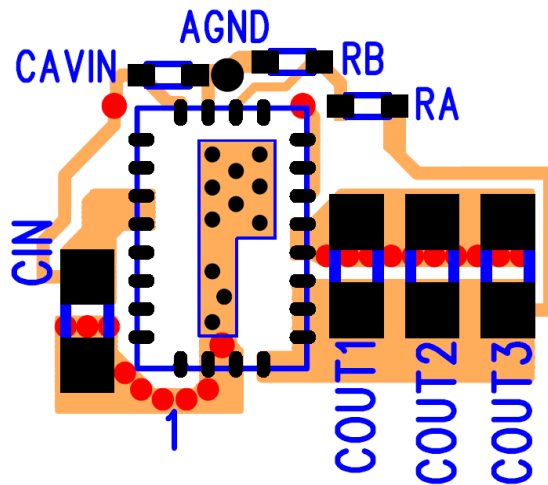

Figure 8. Optimized Layout Recommendations
**Recommendation 5:** AVIN is the power supply for the small-signal control circuits. It should be connected to the input voltage at a quiet point. In Figure 8 this connection is made at the input capacitor. Connect a 1μF capacitor from the AVIN pin to AGND.
**Recommendation 8:** Keep  $R_A$ ,  $R_B$  close to the VFB pin (See Figures 8). The VFB pin is a high-impedance, sensitive node. Keep the trace to this pin as short as possible. Whenever possible, connect  $R_B$  directly to the AGND pin instead of going through the GND plane.
Only the two large thermal pads and the perimeter leads are to be mechanically/electrically connected to the PCB through a SMT soldering process. All other exposed metal is to remain free of any interconnection to the PCB. Figure 8 shows the recommended PCB metal layout for the EN5322QI package. A GND pad with a solder mask "bridge" to separate into two pads and 24 signal pads are to be used to match the metal on the package. The PCB should be clear of any other metal, including traces, vias, etc., under the package to avoid electrical shorting.